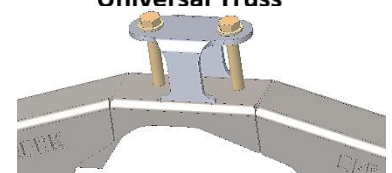

Figure 14
58. Weld upper control arm bracket to truss (see figure 14). Box Truss: Be sure holes are aligned in the bracket/truss and leave 2-5/8" plus some wiggle room for mounting control arms. Plate Truss: Using the bracket as a template: place the bracket flush to front edge of truss and directly over the axle centerline, then mark the location of holes to be drilled. Drill the two holes starting with a small drill size and ending with 9/16". Use plenty of oil. Be sure bolt holes are aligned in the bracket/truss and leave 2-5/8" plus some wiggle room for mounting control arms before welding.
59. Assemble UCA mounting bolts and nuts from hardware kit 150 onto truss (see figure 14 & 15). Snug bolts and weld nuts to bottom of truss. Box Truss: Stitch weld the truss gusset into the inside of the truss. Ensure holes in gusset are aligned to truss (if applicable).